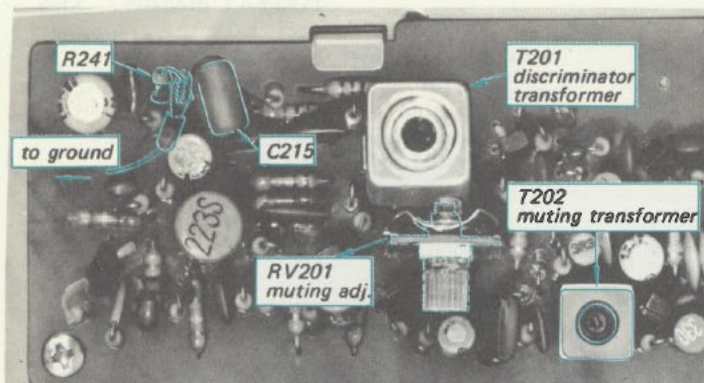
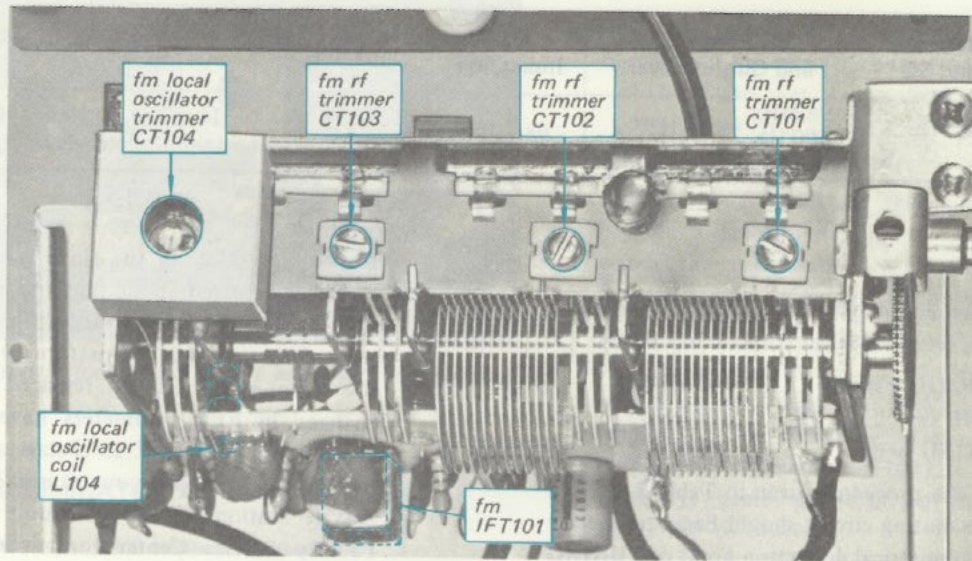

Fig. 3-3. Interruption of afc circuit and parts location
Fig. 3-5. Adjustment parts location
4. Short the connection point of R241 and C215 (AFC circuit) to ground as shown in Fig. 3-3.
4. Turn the core of transformers IFT101 and T201 (bottom core) (see Fig. 3-3 and Fig. 3-5) for maximum output with the alignment tool.
3. Short the connection point of R241 and C215 (AFC circuit) to ground as shown in Fig. 3-3.
3. Turn the top core (secondary side) of discriminator transformer T201 (see Fig. 3-3) with a hex-head alignment tool for a null-point reading on the TUNING meter. If the discriminator transformer (T201) is not aligned correctly, some deviation on the TUNING meter will be observed.
2. Turn RV201 (see Fig. 3-3) fully clockwise on the fm i-f amp board.
1. Short the connection point of R241 and C215 (AFC circuit) to ground as shown in Fig. 3-3.
station. If the dial-accuracy deviation exceeds this limit, turn the local-oscillator coil L104 (see Fig. 3-5) slightly until optimum dial calibrations is obtained.
4. Tune the receiver to the highest-frequency station in your locality. If the dial-calibration error is excessive, adjust local-oscillator trimmer CT104 (see Fig. 3-5) for maximum calibration accuracy.